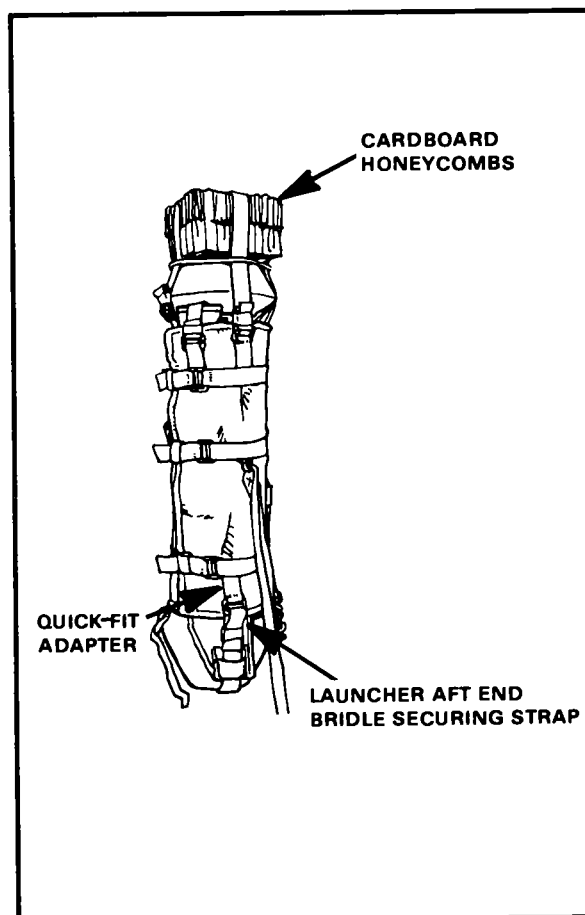

Figure 6-36. Honeycomb squares secured.
(1) Route the launcher aft end bridle securing strap through its quick-fit adapter and tighten using a quick-release fold.
(2) Secure two 9-inch-square blocks of cardboard honeycomb across the forward shock absorber of the missile, using the launcher forward end securing straps. Tighten the straps and form an X over the center of the honeycomb. Secure the straps using a quick-release fold (Figure 6-36).